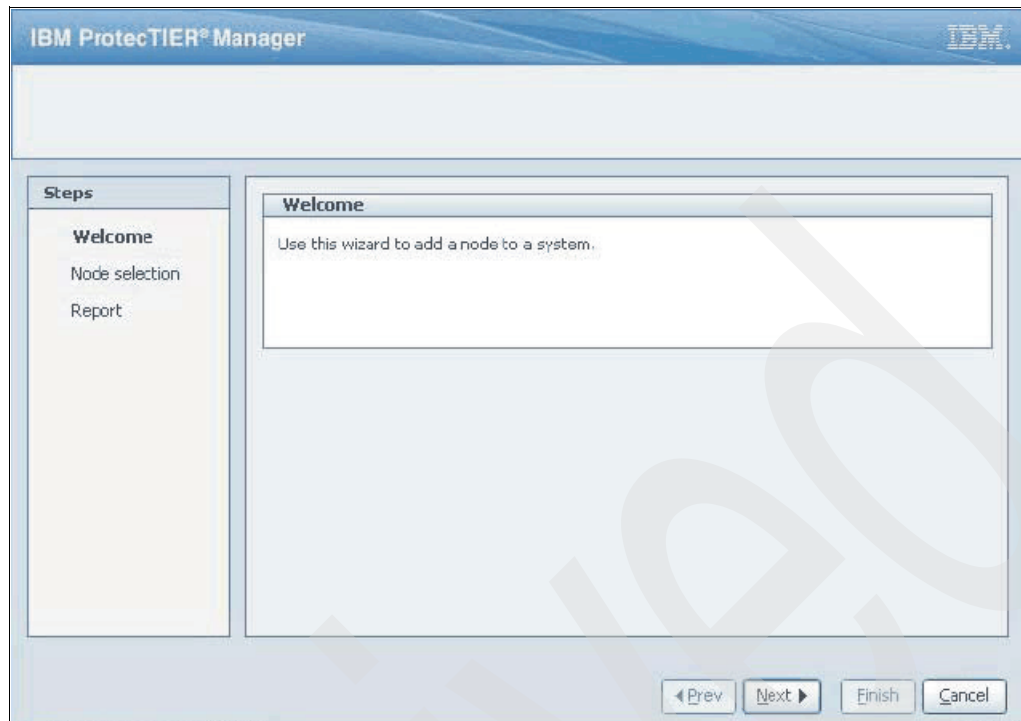

Figure 6-39 PT Manager_add cluster wizard
5. The Add Cluster member wizard window will appear. See Figure 6-39 on page 125.